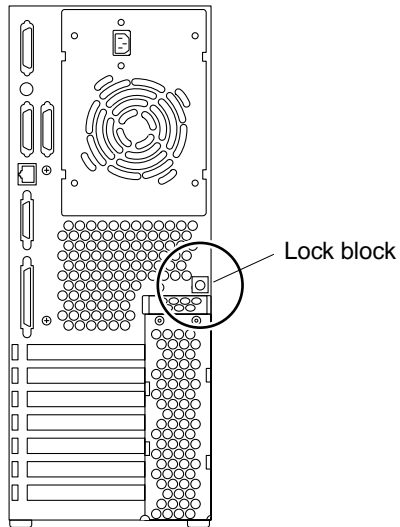

FIGURE 2 Location of the Lock Block
1. **Disconnect the lock block (FIGURE 2).**
3. **Replace the lock block (FIGURE 2)**